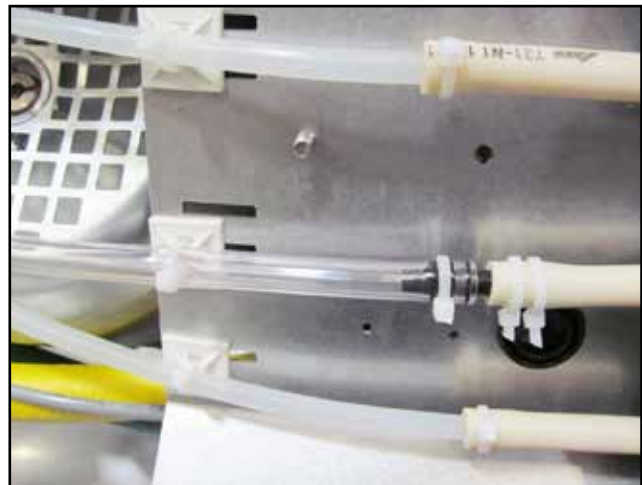

Fig. 5
5. Make sure all cable-ties are in place and secure (Fig. 5).